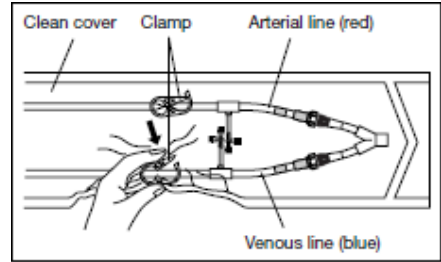

Figure 15
1. Close clamps of the arterial line (red) and venous line (blue) from over the clean cover (Figure 15).